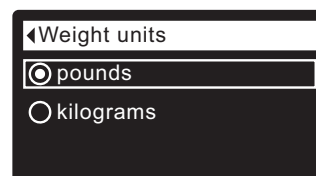

FIG. 63
5. Press the SELECT (O) button to display the Weight units menu (See Figure 63).
6. If the desired weight unit already has a dot next to it (See Figure 63), go to Step 7. Otherwise, press the DOWN (▼) or UP (▲) buttons to scroll to the other weight unit, then press SELECT (O) to choose it.
7. Press the SELECT (O) button. The display will go back to the User preferences menu.